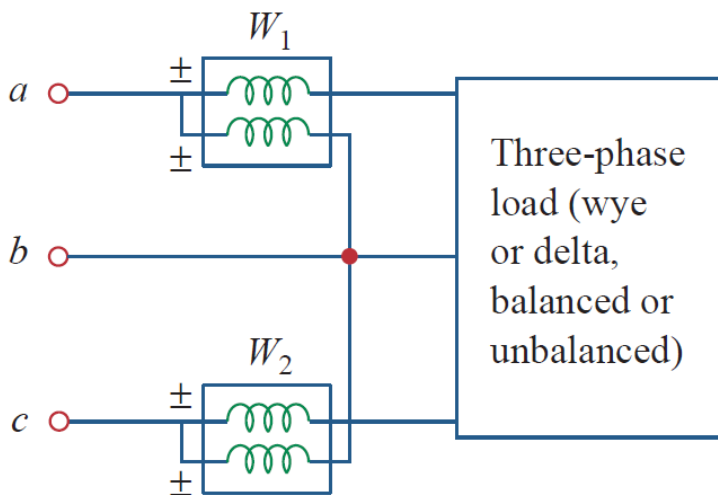

Fig.6.2 Two-wattmeter method for measuring three-phase power.
The *two-wattmeter method* is the most commonly used method for three-phase power measurement. The two wattmeters must be properly connected to any two phases, as shown typically in Fig.6.2. Notice that the current coil of each wattmeter measures the line current, while the respective voltage coil is connected between the line and the third line and measures the line voltage. Also notice that the \pm terminal of the voltage coil is connected to the line to which the corresponding current coil is connected. Although the individual wattmeters no longer read the power taken by any particular phase, the algebraic sum of the two wattmeter readings equals the total average power absorbed by the load, regardless of whether it is wye- or delta-connected, balanced or unbalanced. The total real power is equal to the algebraic sum of the two wattmeter readings,
H.W.12: Let the line voltage $V_L = 208$ V and the wattmeter readings of the balanced system in Fig.6.2 be $P_1 = -560$ W and $P_2 = 800$ W. Determine:
Example 13: The three-phase balanced load in Fig.6.2 has impedance per phase of $Z_Y = 8 + j6 \Omega$. If the load is connected to 208-V lines, predict the readings of the wattmeters W_1 and W_2 . Find P_T and Q_T .
H.W.13: If the load in Fig.6.2 is delta-connected with impedance per phase of $Z_p = 30 - j40 \Omega$ and $V_L = 440 \text{ V}$. predict the readings of the wattmeters W_1 and W_2 . Calculate P_T and Q_T .